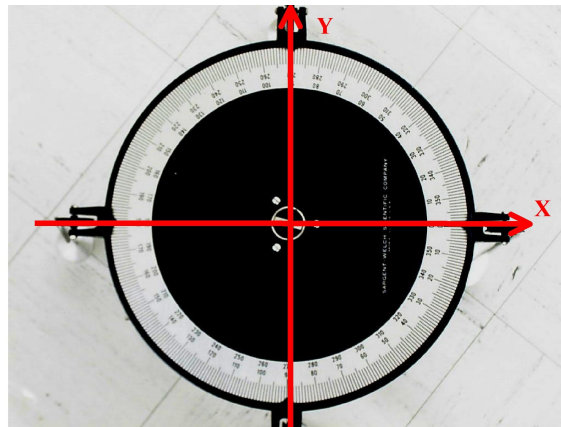
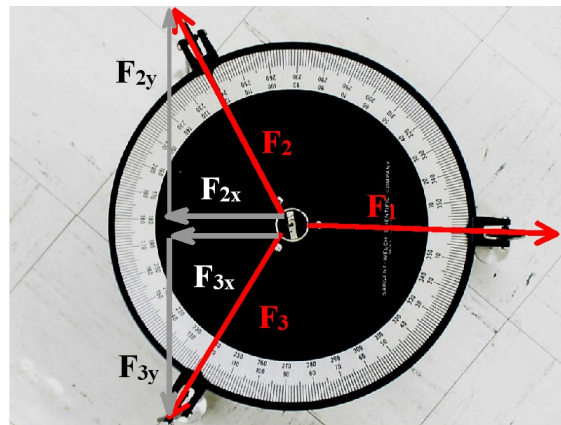

Figure 2: Coordinate System for Force Table
Figure 3: Graphical Representation of Force Balance
**The lab instructor will do an example of how this calculation is performed at the beginning of the lab period.** Figure 2 illustrates the coordinate system imposed upon the force table. Figure 3 shows the components on the force table for this situation.